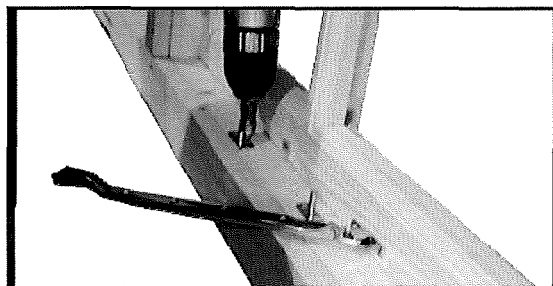

Fig A17
29. Position the first pin so it fits into the first hole on the stay making sure it holds the window tight. Carefully remove the stay holding the pin in position, secure pin using 2 x 25mm screws (Fig A17) . Repeat for other pins.